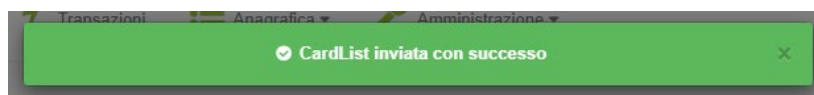

Figure 9.4
6. The system will send the list to the charging station and reply with the message shown in Figure 9.4 if the procedure is successfully completed.
7. The system will send the list to the charging station and reply with the message shown in Figure 9.4 if the procedure is successfully completed.